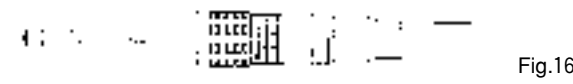

Fig.16
- ② Pull out the lamp (Fig.16)
- ③ Insert a new lamp and align its pins with the socket holes.